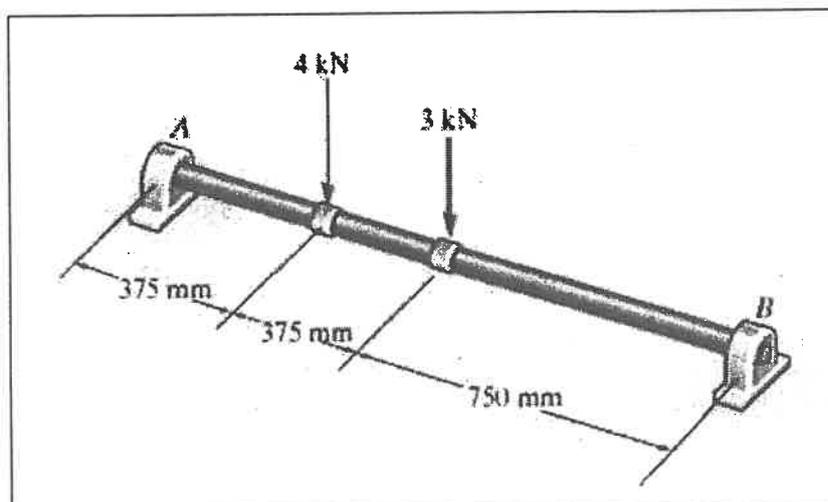

Figure 6
- (b) Figure 6 shows the journal bearing at A and B only support vertical forces that are subjected to the concentrated forces with allowable bending stress is $\sigma_{\text{allow}} = 150 \text{ MPa}$.